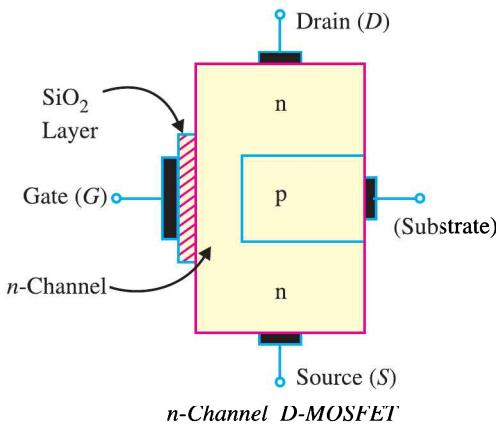

Fig. 19.43
1. D-MOSFET. Fig. 19.43 shows the constructional details of *n*-channel *D-MOSFET*. It is similar to *n*-channel *JFET* except with the following modifications/remarks :
(i) The *n*-channel *D-MOSFET* is a piece of *n*-type material with a *p*-type region (called *substrate*) on the right and an *insulated gate* on the left as shown in Fig. 19.43. The free electrons (*i.e.* it is *n*-channel) flowing from source to drain must pass through the narrow channel between the gate and the *p*-type region (*i.e.* substrate).